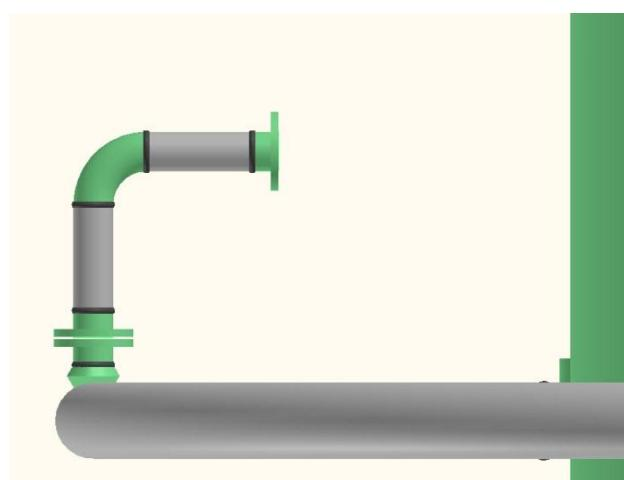

Figure 11. 30: Flange Insertion
32. Right click in the graphic area to terminate the route. Repeat the routing procedures for the other weldolet. Be sure to route toward the centerline of Tank-01. The configuration should look like Figure 11. 31 when complete.